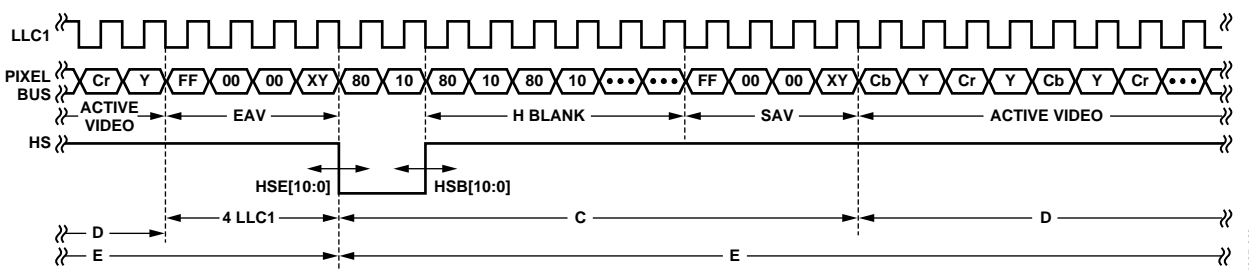

Figure 20. HS Timing
The position of this edge is controlled by placing a binary number into HSB[10:0]. The number applied offsets the edge with respect to an internal counter that is reset to 0 immediately after EAV Code FF, 00, 00, XY (see Figure 20). HSB is set to 00000000010b, which is 2 LLC1 clock cycles from Count[0].
The position of this edge is controlled by placing a binary number into HSE[10:0]. The number applied offsets the edge with respect to an internal counter that is reset to 0 immediately after EAV Code FF, 00, 00, XY (see Figure 20). HSE is set to 0000000000b, which is 0 LLC1 clock cycles from Count[0].
**Table 55. HS Timing Parameters (see Figure 20)**